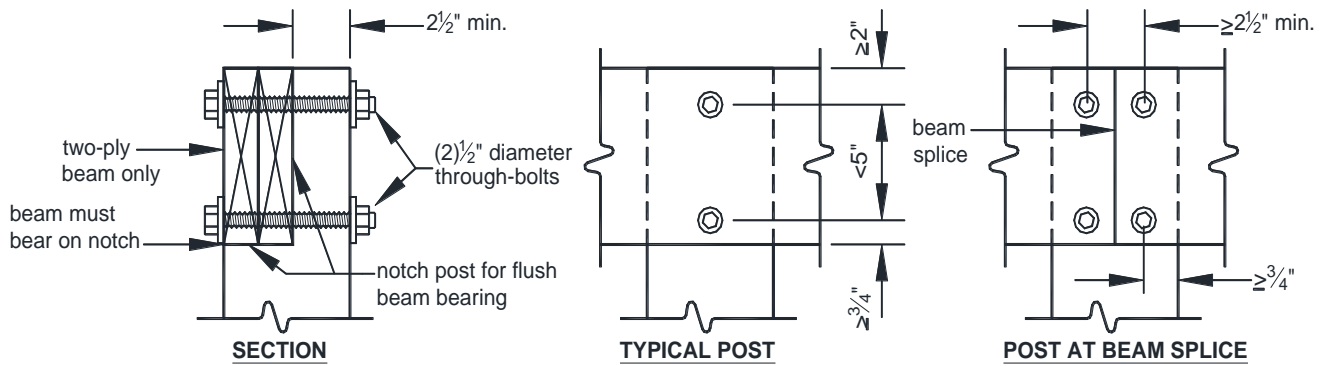
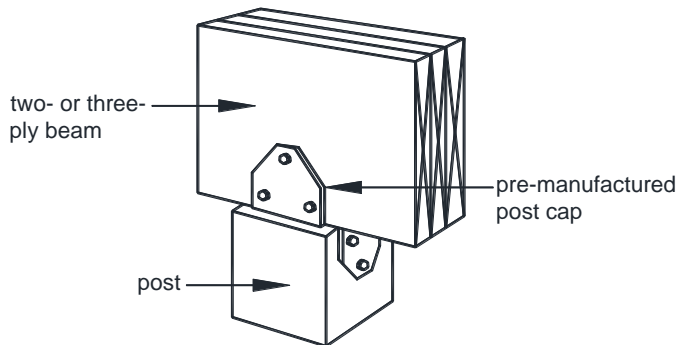

FIGURE 18: NOTCHED 6x6 POST-TO-BEAM CONNECTION
FIGURE 19: POST CAP CONNECTION
- Beams shall be attached to 6x6 posts using one of the methods shown in FIGURE 18 or 19. Beams shall be attached to 4x4 posts using the method shown in FIGURE 19.